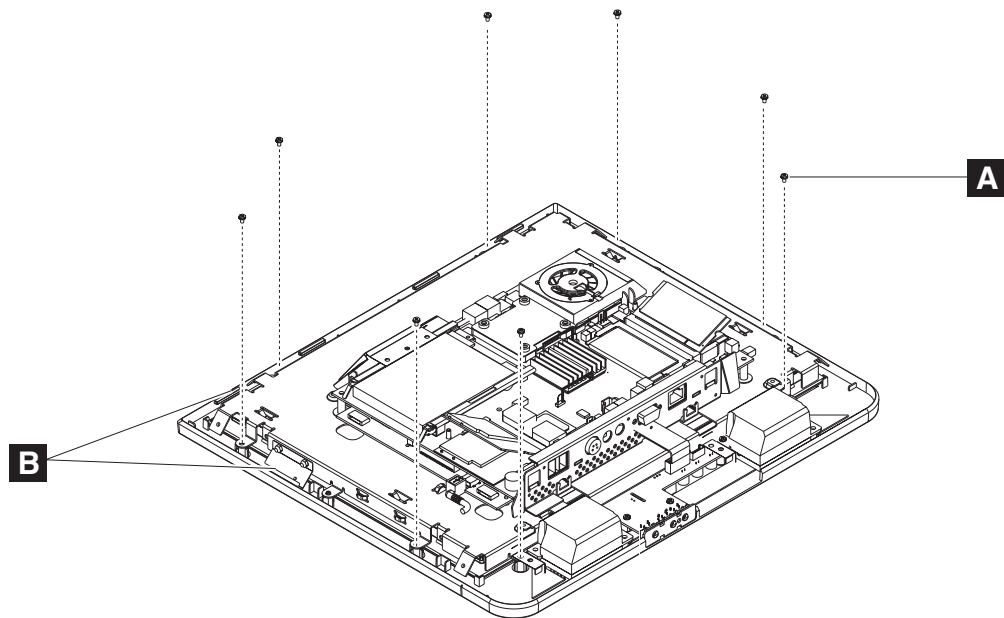

Figure 29. Removing the LCD
**Note:** Take care not to bend the metal antenna ( **B** in Figure 29).